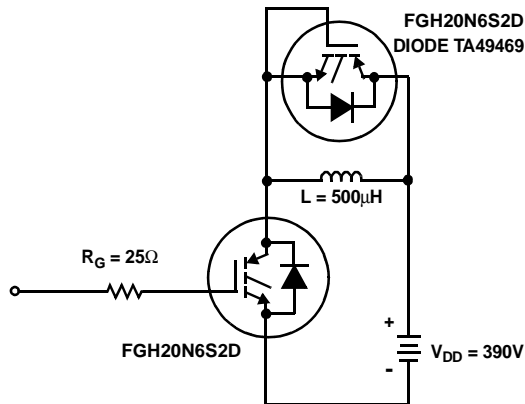

Figure 26. Inductive Switching Test Circuit
1. Values for two Turn-On loss conditions are shown for the convenience of the circuit designer.  $E_{ON1}$  is the turn-on loss of the IGBT only.  $E_{ON2}$  is the turn-on loss when a typical diode is used in the test circuit and the diode is at the same  $T_J$  as the IGBT. The diode type is specified in figure 26.